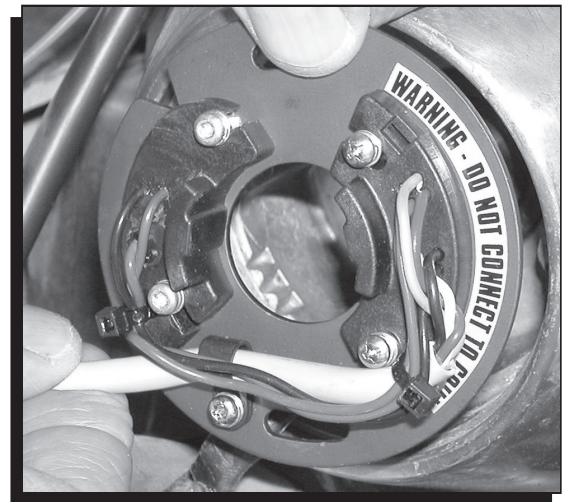

Figure 1 Installing the MSD Pickup Assembly.
2. Mount the MSD pickup plate inside the housing (Figure 1). Note the "adjusting notch" on the edge of the plate. This notch must be located over the series of "steps" inside the housing (about the 7 o'clock position as you face the housing). One of the sensor units will be at approximately 12 o'clock.